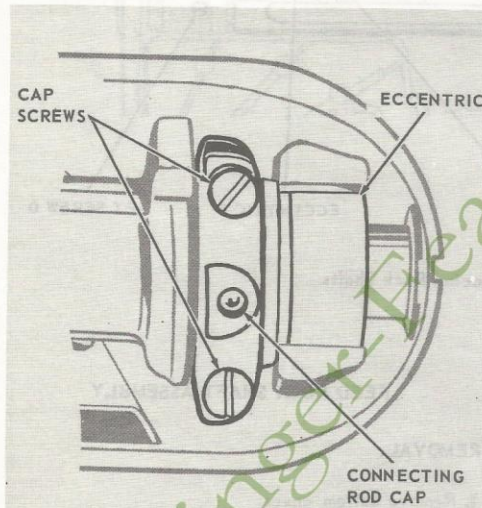

Fig. 44. Removing Feed Connecting Rod
2. Remove two cap screws, Fig. 44, and remove connecting rod cap.
1. Insert connecting rod into upright arm through bottom of machine, so that it fits around bottom half of pulley (or gear) hub on eccentric, Fig. 44.
1. Insert feed forked connection into upright arm through bottom of machine, so that it fits around eccentric, as shown in Fig. 44.